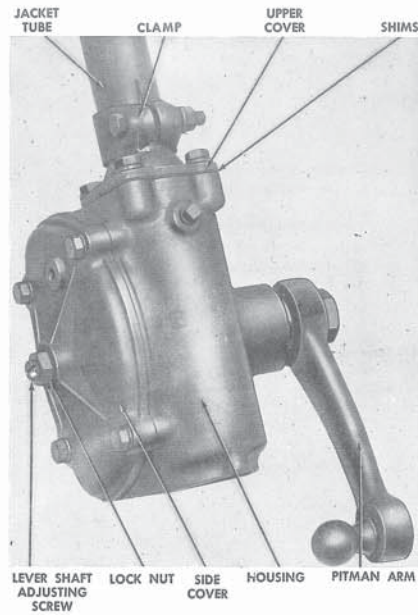

Fig. 64. Steering Gear Assembly
**Adjust Levershaft Backlash.** Turn steering gear wheel until steering axle wheels are in a straight-ahead position. Loosen adjusting screw lock nut at gear side cover (Figure 64). Tighten adjusting screw until there is a slight finger drag when turning steering gear wheel slowly from one extreme to the other. Tighten lock nut after correct adjustment is obtained.